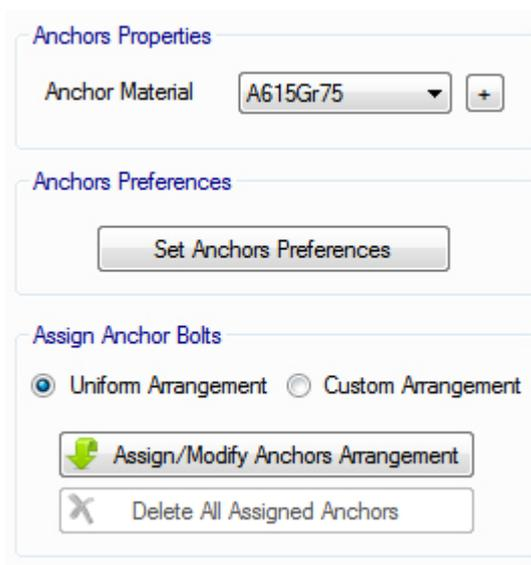

Figure 3-26, Assign Anchor Bolt Properties
The possibility to model, analysis and design of cast-in place anchors is provided. In the **Anchor Rods** tab, Anchors material, geometric properties and arrangements of anchors on connection are determined (Figure 3-26)
- **Anchor Material:** Only those materials defined as Anchor Bolt are shown in this section (Figure 3-26). The modulus of elasticity of anchors must be greater than zero otherwise the analysis will not run.
- **Anchor Preferences:** By clicking on Set Anchor Preferences button in Anchor Rods Tab (Figure 3-26), Anchor Preferences Form is appeared (Figure 3-27). In this Form, Anchors type, length, and spacing control provisions are determined.
- Assign Anchor Bolts: To model the anchor rods of a connection, one can use Uniform Assignment or Custom Assignment (Figure 3-26). Uniform Assignment is used for positing of anchor rods with ease and speed, but also with some restrictions. On the other hand, the Custom Assignment is a general method without any restriction in